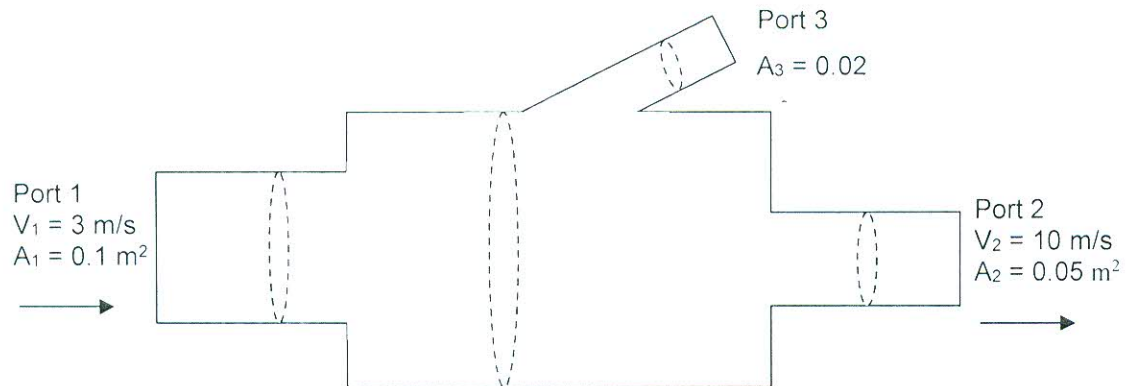

Figure 1 - Device that diverts flow of fluid into different sections
- [b] Bernoulli's equation is always combined with continuity equation to solve many problems relating to fluid mechanics. Consider Figure 1 as follows: